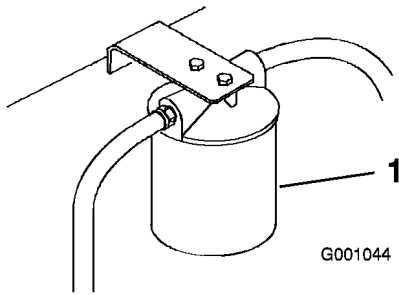

Figure 59
- Place drain pan under filter, remove the old filter and wipe the filter adapter gasket surface clean (Figure 59).